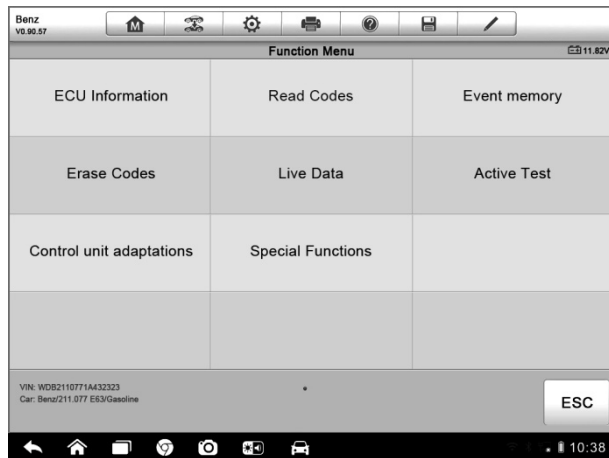

Figure 4-7 Sample Function Menu Screen
- Tab the  button to the right of the system item, on which you want to perform further diagnosis and other test activities. A Function Menu screen (*Figure 4-7*) shall then display.